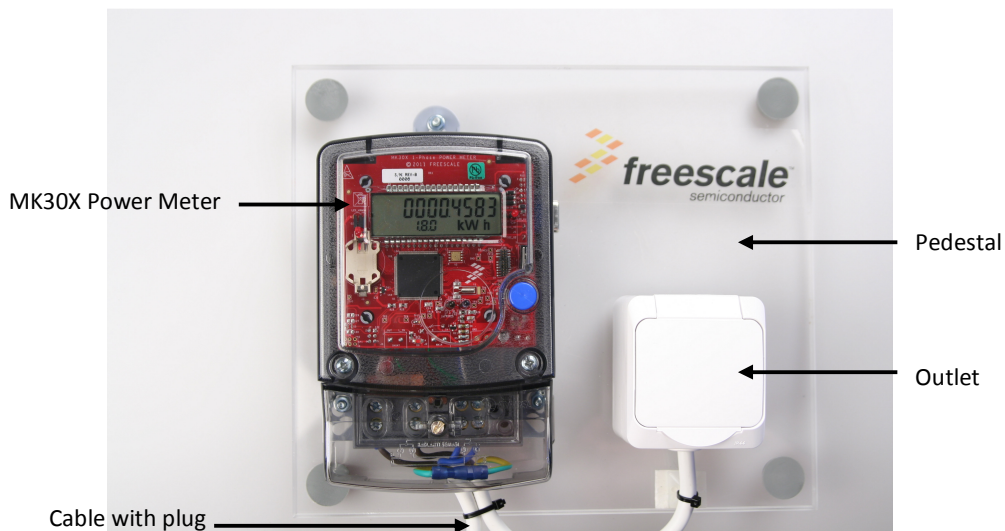

Figure 2 Single-Phase Power Meter Demo
- For a better practical demonstration of the Power Meter, the metering case may be placed on a perspex base alternatively where an outlet is also placed (for load connection) and a cable with a plug (for connection to the power mains). The whole configuration is also called the Power Meter Demo¹⁾ – see Figure 2.